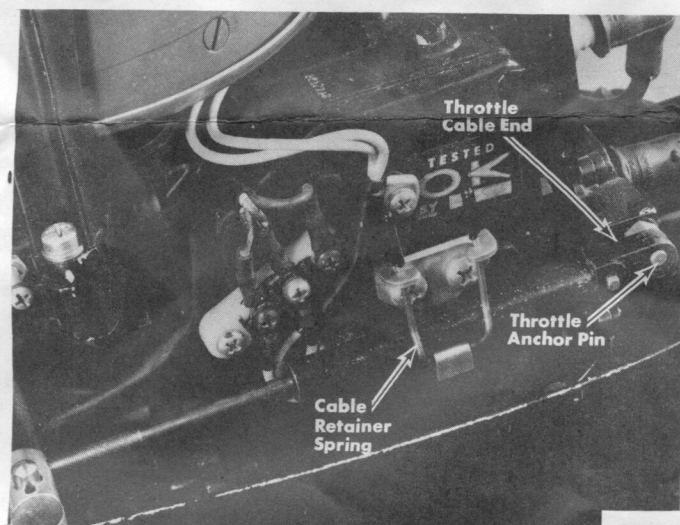

Figure 12. Securing Throttle Cable End
4. Place throttle cable end over throttle anchor pin at cylinder block cover and secure with cable retainer spring. (Figure 12)